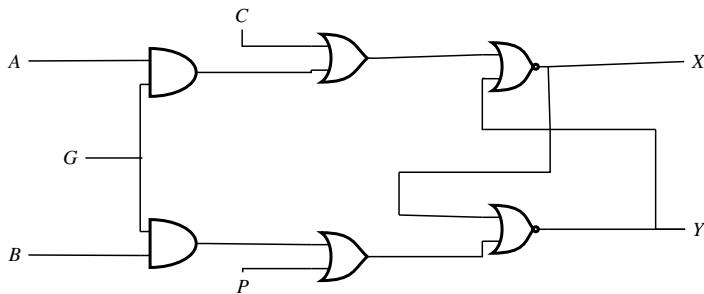

Fig. 5.36
41. For the following circuit Fig. 5.36, the correct logic values for the entries  $X_2$  and  $Y_2$  in the truth table in Table 5.2 are